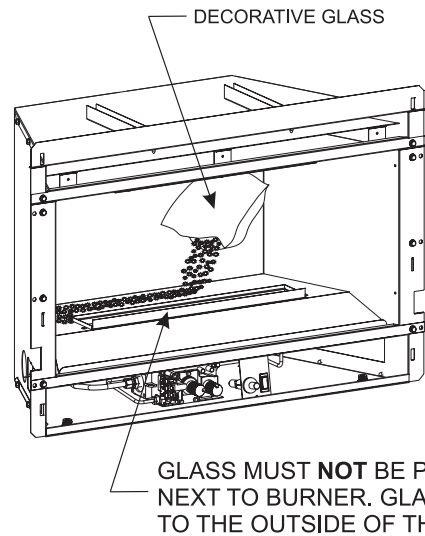

Figure 19
2. Attach the flag terminal ends to the "TH/TP" and "TH" terminals on the front terminal block of the gas valve. See Figure 19.